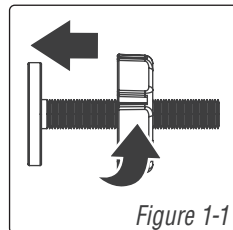

Figure 1-1
Locate the (4) threaded spindle rods (B). Rotate the adjustment wheels along the threading, eliminating the gap between the adjustment wheel and the rubber foot (Figure 1-1).